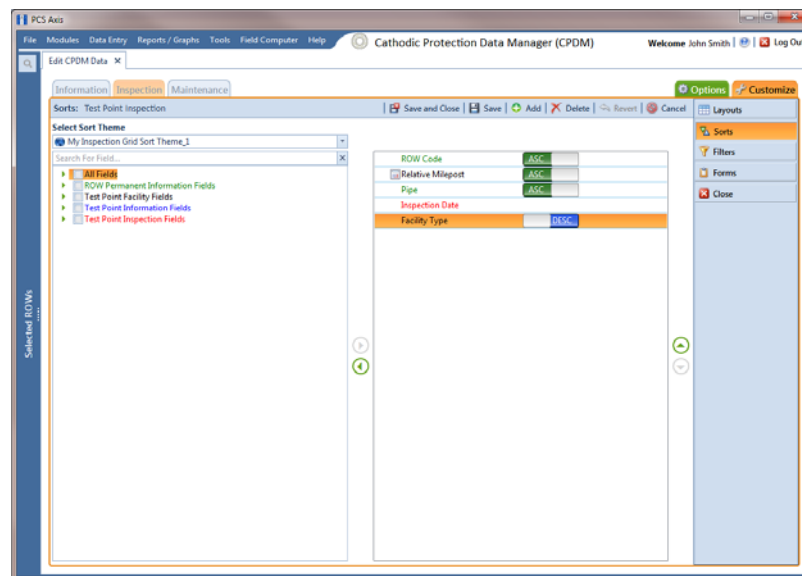

Figure 7-85. Sorts
- 5 Click the **Customize** tab  then the **Sorts** button  to open the *Sorts* page (Figure 7-85).